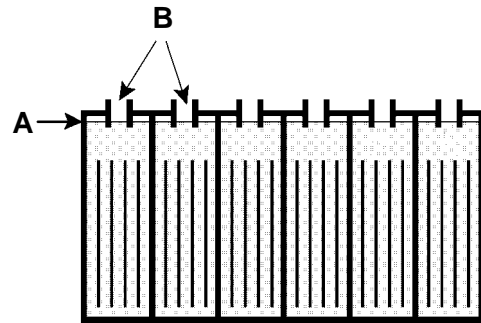

FIG. 25
2. After charging, check fluid level in each battery cell. The level (A) should reach bottom of sight tubes (B). If needed, add just enough distilled water to reach bottom of sight tubes. DO NOT overfill (Figure 25).